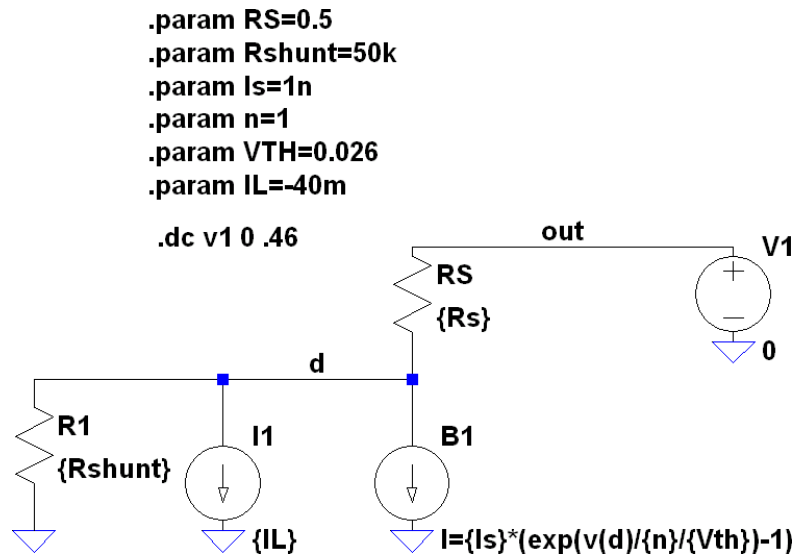
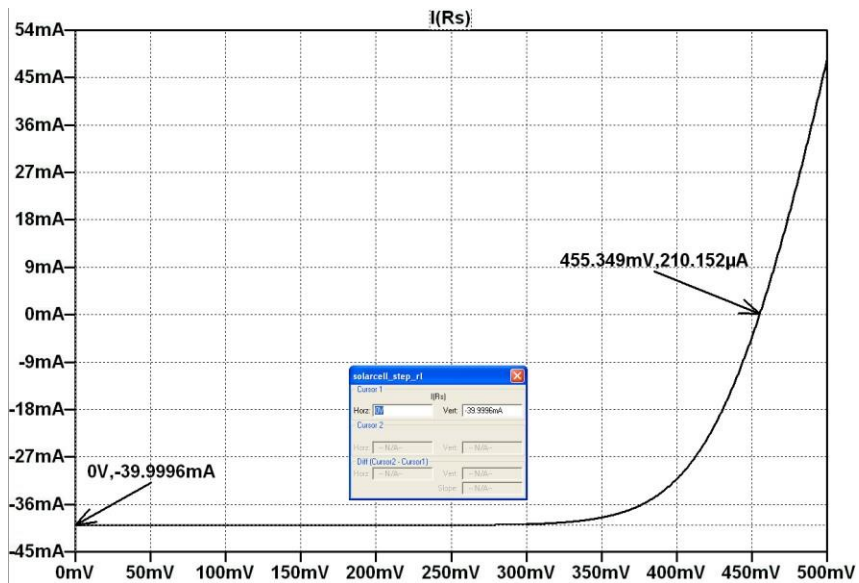
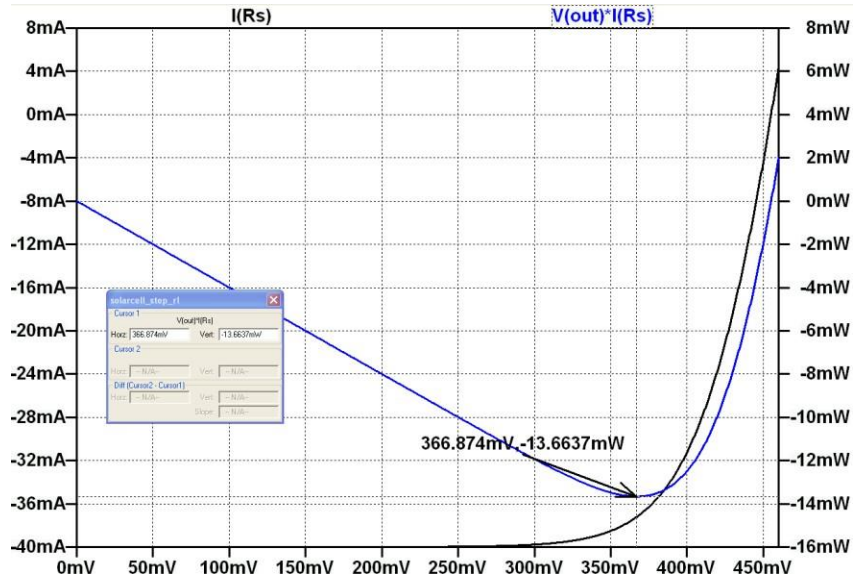

Figure 50: Measuring solar cell response with a voltage source.
Figure 51: Measuring V_{oc} and I_{sc} from a swept voltage source.
Figure 52: Finding power from a swept voltage source.
- Stepping R_{load} is a method to measure the IV characteristics of solar cell, but it is extremely time consuming to do and it does not lend itself to automation. It can also be hard to extract R_s . In a real test lab an SMU voltage source measurement unit is used. The voltage is swept and the current measured. This is modeled in LTspice as in Figure 50.
- Change your model to match Figure 50, and rerun the simulation, and re-extract V_{oc} , I_{sc} and maximum power (Figure 51, Figure 52).